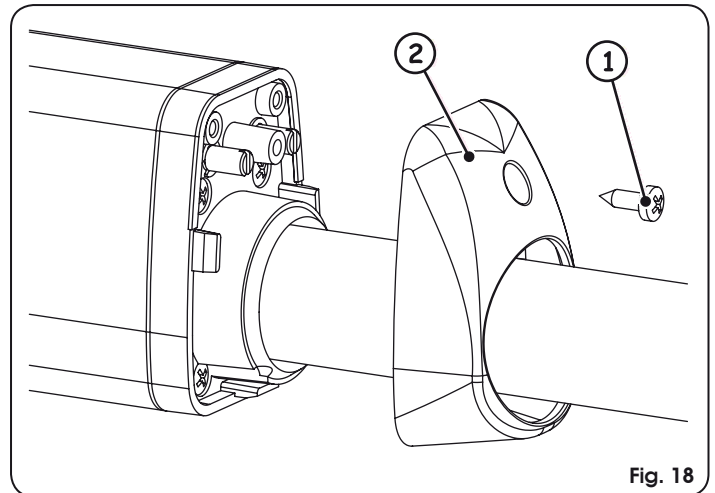

Fig. 18
1. Unscrew the upper fastening screw, Fig. 18 ref. ①, and remove the cap, Fig. 18 ref. ②.
5. Reposition the cap, Fig. 18 ref. ②, and tighten the fastening screw again, Fig. 18 ref. ①.